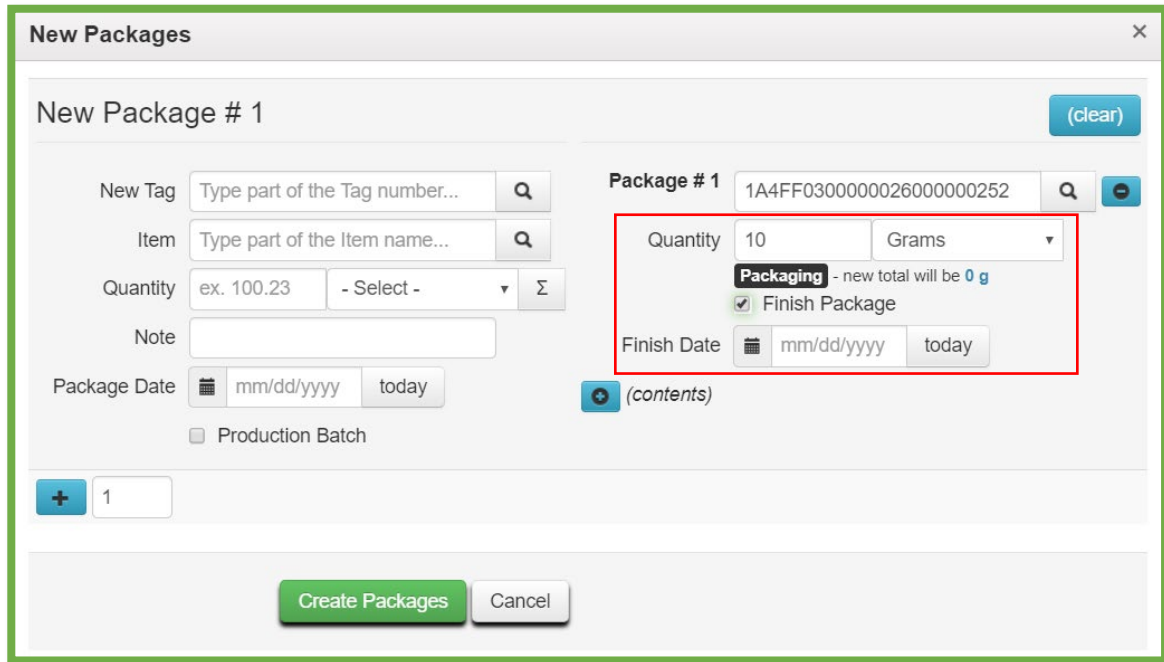

Figure 7: Finishing a Source Package
If the remaining quantity of a source/content package is calculated to be zero (0) when creating a new package, the user will now be able to finish that source package at the same time as creating the new package(s). **Figure 7** below shows an example of finishing a source package when creating a new package. Once the user has marked the *Finish Package* checkbox, identified a *Finish Date*, and selected the *Create Packages* button, the source package moves to the *Inactive* tab.